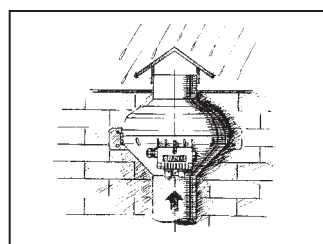

Fig. 6
1. Install an outer hood on the intake flange in case of vertical mounting position, fig. 6.